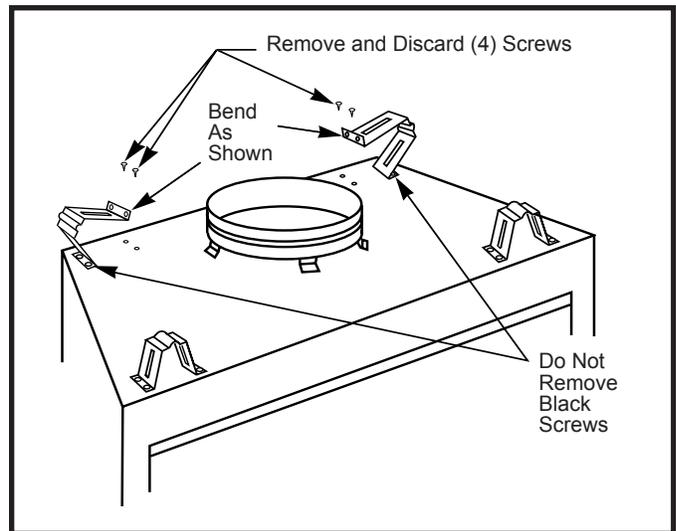

Fig. 4 Preparing BR/BC & SR/SC models.
STEP 1a On BR/BC & SR/SC Series fireplaces you must first remove the inside two (2) screws on each back support spacer. Then bend the spacers out of the way so that the CCE-SK will slide underneath them. (Fig. 4)